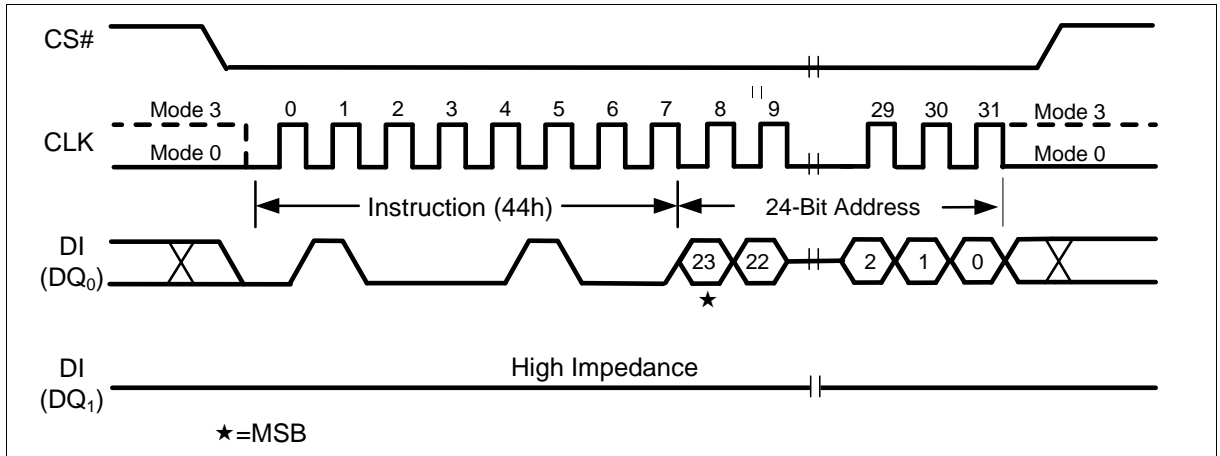

Figure 59 Erase Security Sector Instruction (SPI Mode only)
The Erase Security Sector instruction sequence is shown in Figure 59. The CS# pin must be driven high after the eighth bit of the last byte has been latched. If this is not done the instruction will not be executed. After CS# is driven high, the self-timed Erase Security Sector operation will commence for time duration of t_{SE} (See “12.6 AC Electrical Characteristics”). While the Erase Security Sector cycle is in progress, the Read Status Register instruction may still be accessed for checking the status of the WIP bit. The WIP bit is a 1 during the erase cycle and becomes a 0 when the cycle is finished and the device is ready to accept other instructions again. After the Erase Security Sector cycle has finished the Write Enable Latch (WEL) bit in the Status Register is cleared to 0. The Security Sector Lock Bit (LB) in the Status Register-2 can be used to OTP protect the Security Sectors. Once the LB bit is set to 1, the Security Sector will be permanently locked, Erase Security Sector instruction will be ignored.